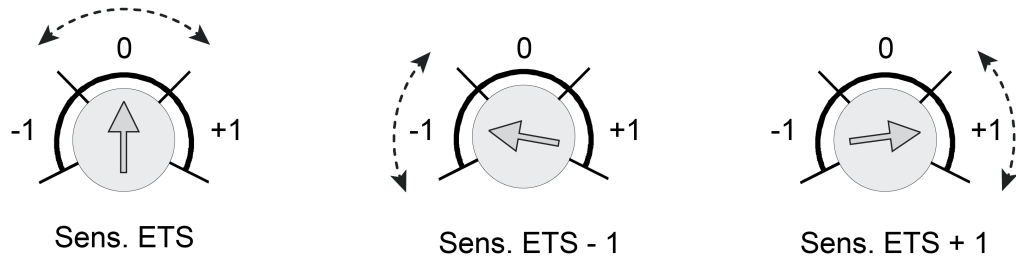

Figure 19: Example of the adjustment ranges of the sensitivity adjuster on the device
- (7) Slide button for local operation (setting of the operating mode and activation of the programming mode )
- (8) Sensitivity adjuster
- (10) "ON" button for operating mode switchover and to activate the programming mode
- (11) "OFF" button for operating mode switchover
The sensitivity of the motion detection, which is a gauge for the range of the PIR evaluation, can be configured separately in the ETS for the both PIR sectors and can also be adjusted directly on the device after commissioning. For this purpose, the device has the adjuster (8) that makes it possible to change the configured sensitivity setting of all PIR sectors. The sensitivity can be reduced or increased by a maximum of one level using the adjuster (Figure 19).